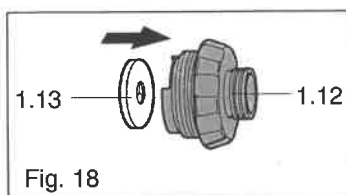

Fig. 18
- ◇ Install a new membrane valve (1.13) in the sealing element (1.12) (fig. 18).